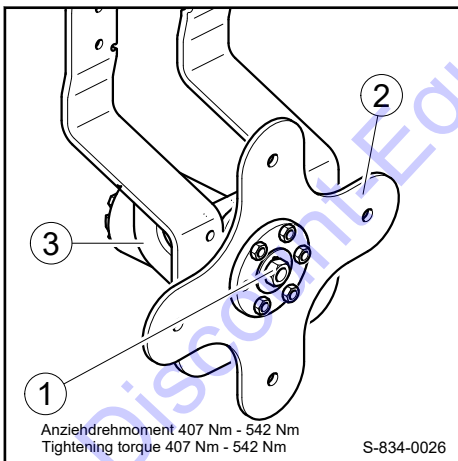

Fig. 251
4. Mount the drive disc 2 ↪ Fig. 251 with fastening nut (1) to the travel motor.